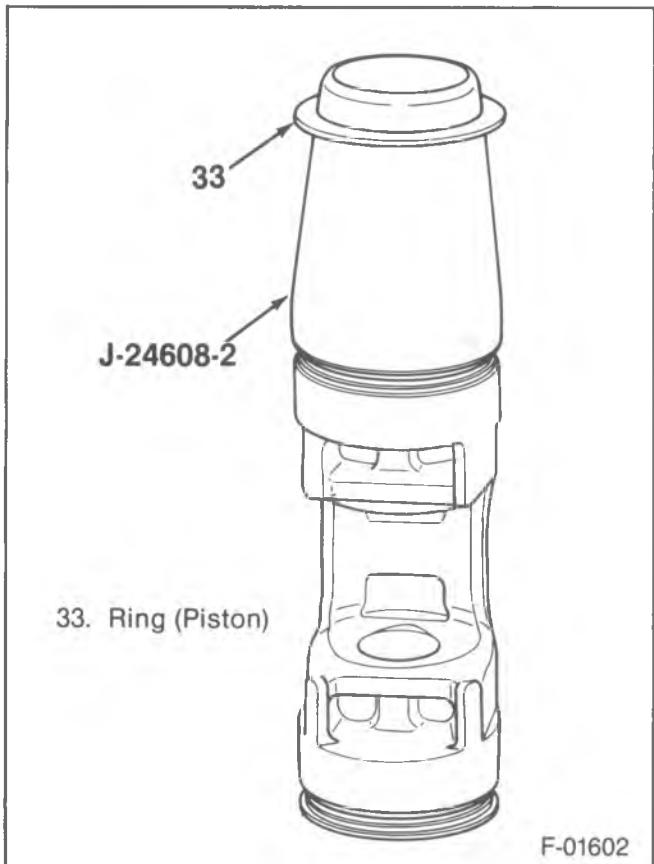
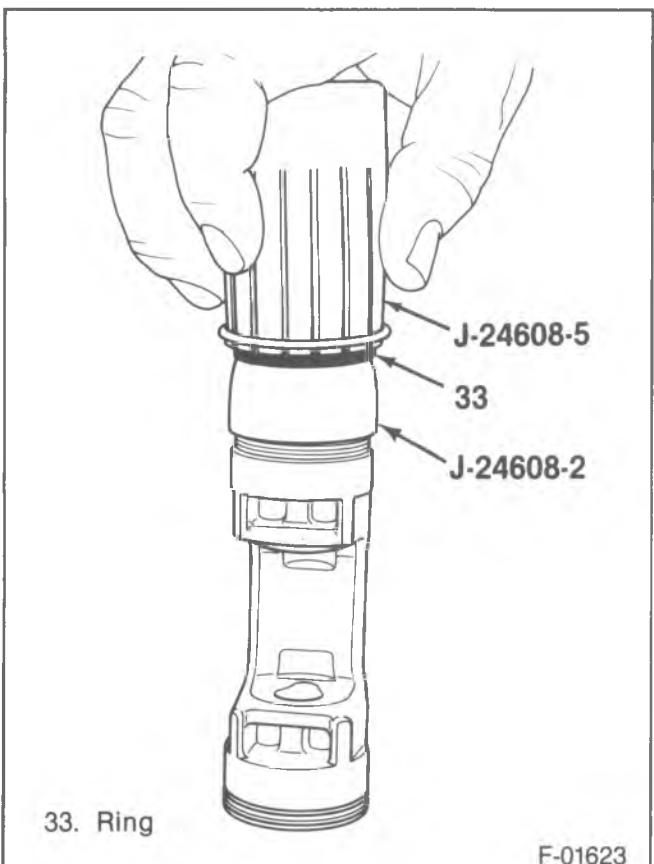

Figure 36—Piston Ring Position and installer Guide
Figure 37—Installing the Piston Ring
- Piston (32) to J-24608-2 (figure 36).
- Piston ring (33) to J-24608-2.
- Piston ring (33) to piston (32) (figure 37).